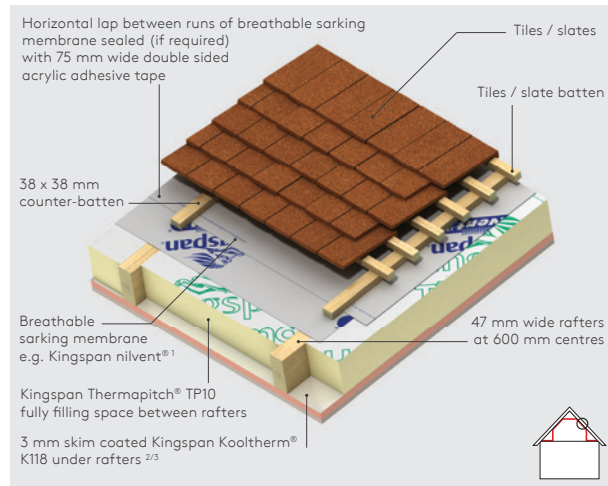

Figure 1a
NB When calculating U-values to BS / I.S. EN ISO 6946: 2017, the type of mechanical fixing used may change the thickness of insulation required. The effect of fixings for Kingspan Kooltherm® K118 in the U-value calculations for Figures 1a, 1b, 1c, 1d, 2a, 2b, 4a & 4c is insignificant as the insulation layer penetrated is not the main insulation layer. The U-value calculations for Figures 3a & 3b assume that over rafter layers of insulation are fixed using stainless steel fixings with a cross sectional area 7.90 mm2, with 3.7 fasteners per m2 (insulant thickness 0-40 mm), 6.2 per m2 (insulant thickness 41-60 mm), 8.3 per m2 (insulant thickness 61-80 mm) and 10.0 per m2 (insulant thickness 81-100 mm). The U-value calculations for Figures 3a & 3b also assume that over rafter layers of insulation are fixed using stainless steel fixings with a cross sectional area 9.1 mm2, with 11.1 fasteners per m2 (insulant thickness 101-125 mm). Please contact the Kingspan Insulation Technical Service Department (see rear cover) for project calculations.
- 1 In Figures 1a & 3a the breathable sarking membrane can be placed over the counter-battens, draped to provide for drainage and overlain with tile / slate battens. This will yield a marginally better U-value but it will be more difficult to seal the breathable sarking membrane effectively.